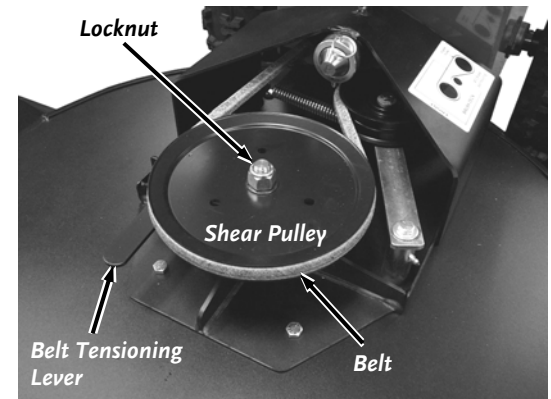

Figure 37
2. Release the Belt Tensioner Lever and remove the Belt from the Pulley (**Figure 37**).